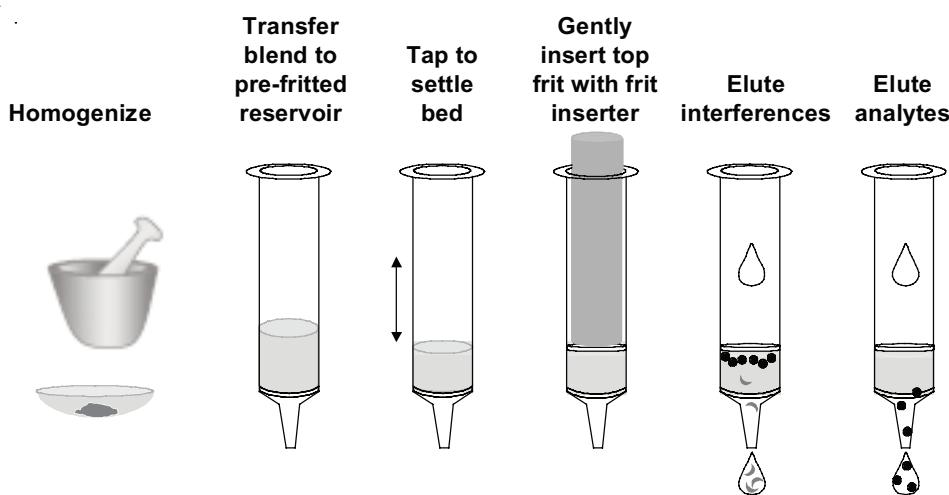

Figure 1. The MSDS process
ISOLUTE MSPD C18 and MSPD C18(EC) are both suitable for the extraction of a variety of organic analytes such as drugs, steroids and pesticides from complex matrices. The additional polar silanol interactions available with the non-endcapped C18 sorbent may give higher recoveries in the extraction of basic analytes. (See **Figure 1** for illustration at MSDS process).